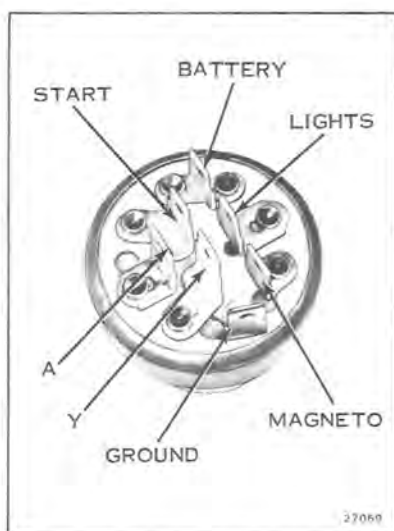

Figure 7-12
- C. If less than 500k ohm reading, remove terminal connectors from ignition switch (see Figure 7-12) and remove ignition switch from dash panel. Turn ignition key to "RUN" position and take a resistance reading across the magneto and ground terminal of the ignition switch. See Figure 7-12. Use high ohm scale for test #2A.